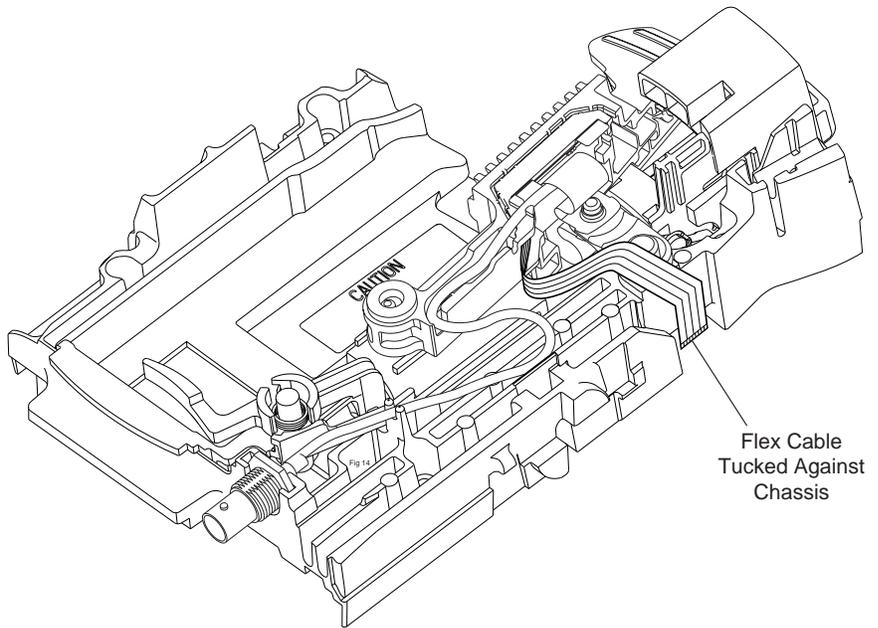

Figure 15 Flex Against the Chassis
3. Be careful not to pinch the circuit ribbon flex during this step. Turn the chassis rightside-up. The flex should lie against the chassis as shown in Figure 15. Replace the front housing (1) on the chassis.